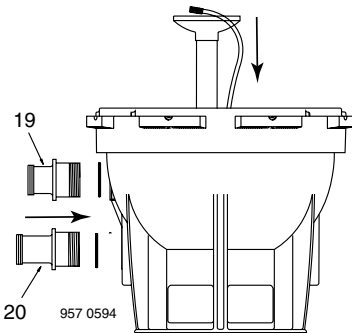

Figure 8
7. Drop new internal assembly into tank and secure with tank fittings (Key Nos. 19 and 20, Figure 8).